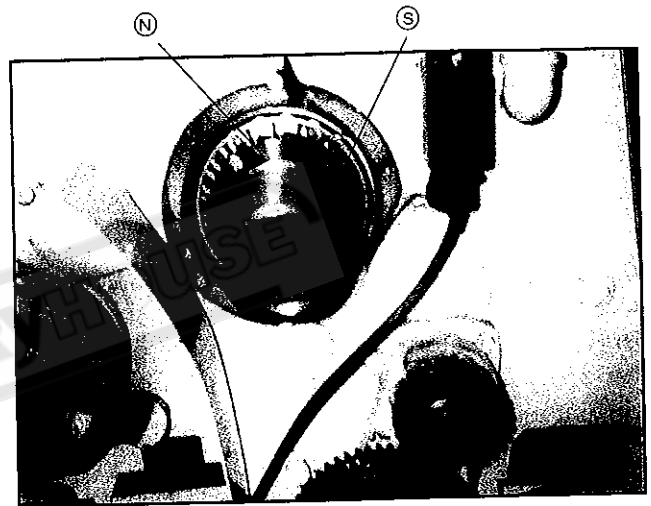

Fig.36
**SPINDLE BEARING ADJUSTMENT (Fig.36)**